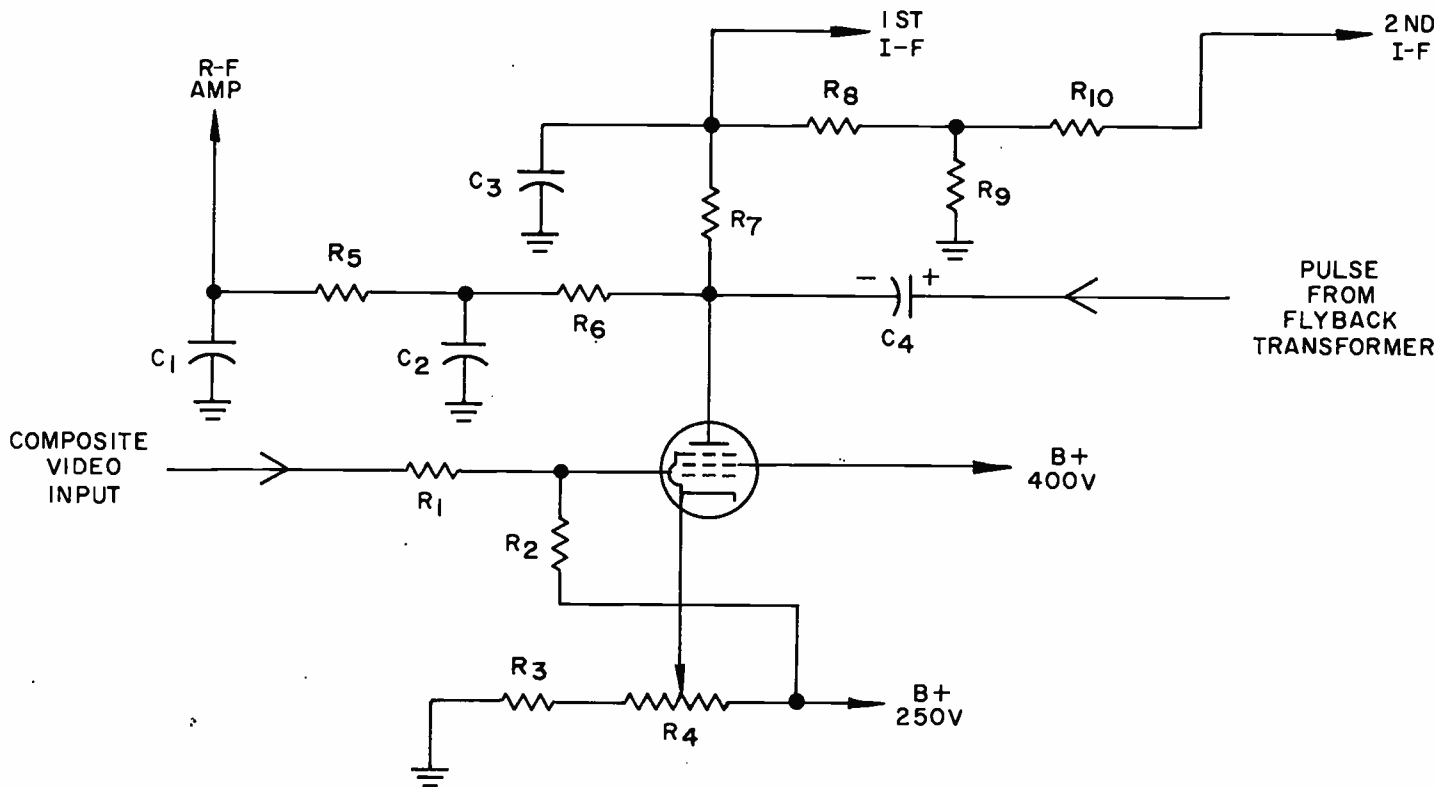

Fig. 11. A typical keyed agc system.
sync pulses only, and therefore keyed agc is unaffected by any noise or other variations that occur between the horizontal sync pulses. A typical keyed agc system using a tube is shown in Fig. 11.
The keyed agc circuit described here is typical of what you will see in vacuum-tube receivers, but there are a number of variations which may be encountered. The threshold control, R_4 in Fig. 11, may be in the grid circuit of the agc tube; the grid signal source may be a detector at the output of the last i-f stage as in Fig. 4E; the source of positive pulses applied to the plate of the agc tube may differ. This is sometimes simply taken off the primary winding of the horizontal output transformer, through a capacitor and dropping resistor, instead of having a separate winding on this transformer. These are just a few of the variations; however, the same principles will apply to almost any keyed agc circuit that you may encounter. We will study a few additional variations when we study noise rejection in sync circuits after we study transistor agc circuits.
- (l) If the strength of the video signal fed to the agc circuit shown in Fig. 11 decreases, will the voltage across C_3 increase or decrease?